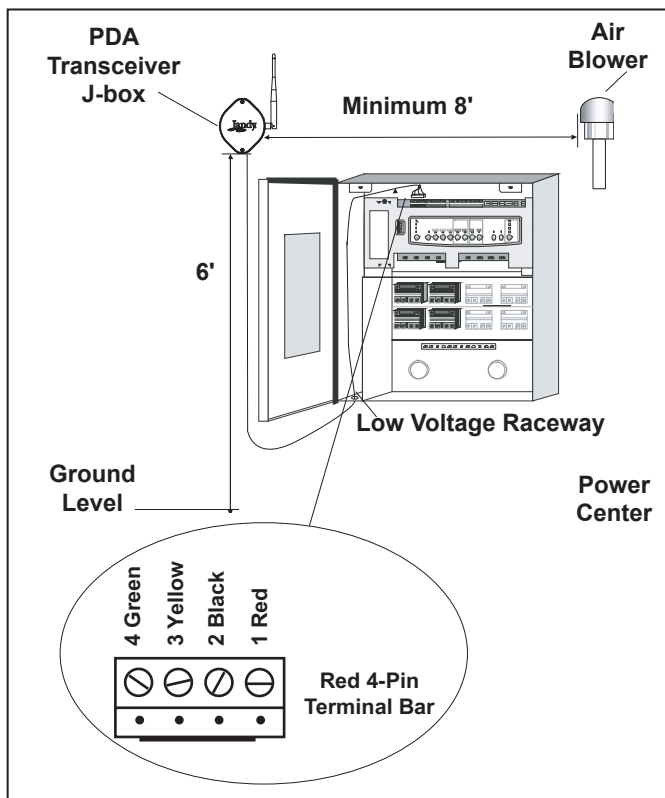

Figure 20. Outdoor Transceiver J-box Installation
2. Mount the outdoor transceiver J-box at least 6' above the ground and at least 8' from an air blower (see Figure 20).